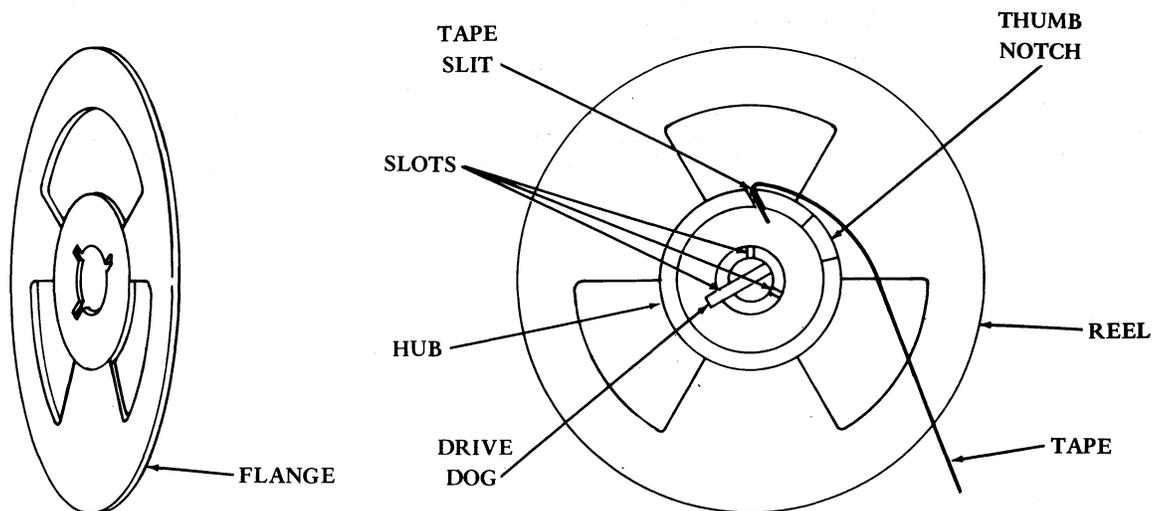

Figure 3 - Tape Reel Assembly
2.13 The tape reel assembly (Figure 3), consists of a tape reel and a removable flange. Three slots are provided in the reel hub to permit engagement of a tape reel hub drive dog. The flange is designed so that it can be reassembled to the reel, after tape threading, whether or not the drive dog is engaged.